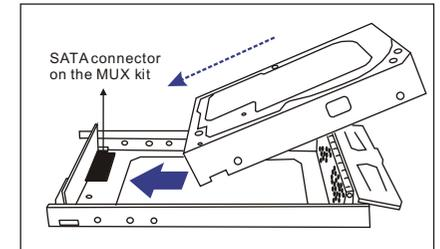

Figure 1: Installing a SATA Hard Drive
- Step 1.** Place the SATA hard drive into the drive tray. Make sure that the hard drive connector lines up with the rear of the tray and the label side is facing up. (See **Figure 1**)
- Step 2.** Secure the hard drive using four (4) of the supplied 6/32 flat-head screws through the pre-drilled holes on the sides of the drive tray.